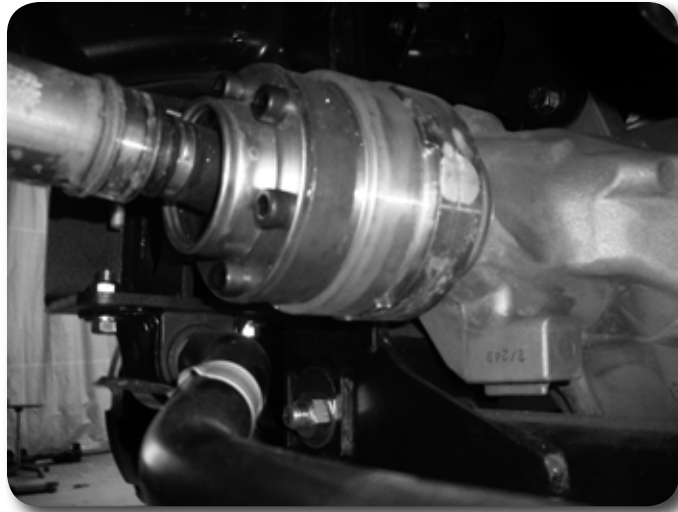

Figure 29
60. Install the supplied driveshaft spacer and reattach front driveshaft to differential with new hardware. Torque bolts to 76 ft-lbs. Figure 29